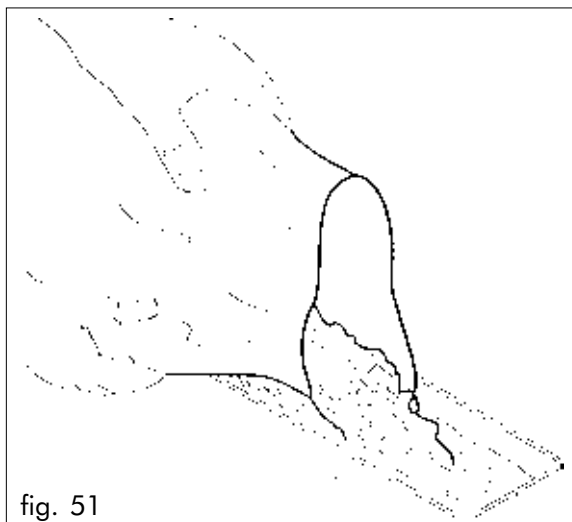

fig. 51
- Lift the cover of each container and load the product (fig.51)